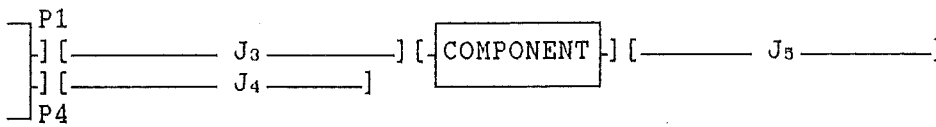

Figure 20-A
An insertion loss implies a throughput. Thus the technique used here is to measure the input, insert the component and measure a known reflection. The setup is shown in Figure 20-A below.
** As in section 19 above, take a REFERENCE from the end of the disconnected jumper J₃. Insert the component, add a Jumper J₅ as shown in Figure 20-A. Now locate an MEASURE the end of Jumper J₅. This is a known 4% reflection. As above the insertion loss can now be calculated.
Note: The insertion loss as shown in Figure 20-A includes the component and the two connectors. If the component output connector were a 4% reflection or a least a known reflection, then the Jumper J₅ would be unnecessary and the MEASUREMENT could be made on the output connector. If this reflection is different from 4% it must be accounted for by the operator.
** Use this same procedure to measure a connector loss. (i.e. let the component in Figure 20-A be a connector.)